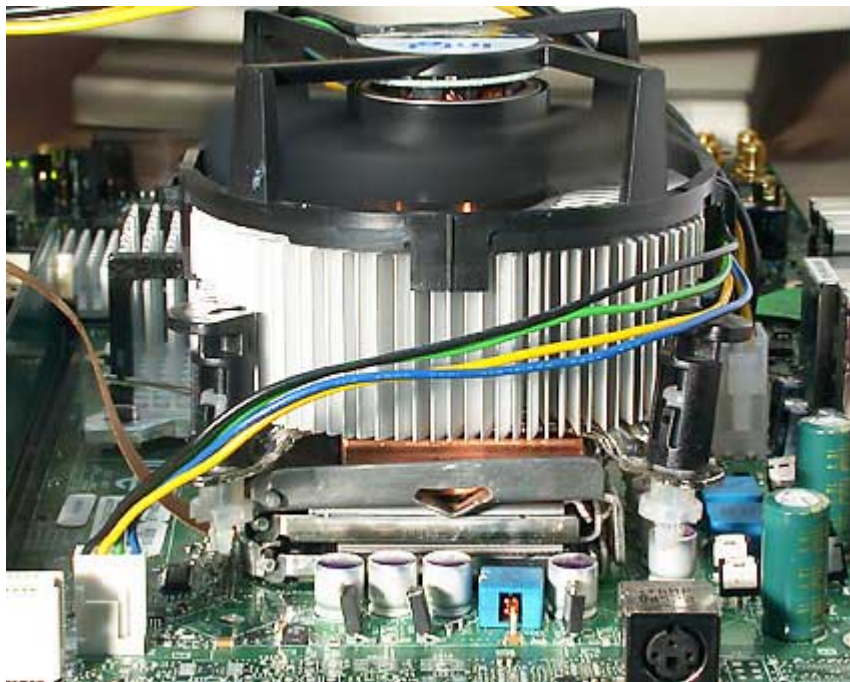

Figure 2.15 The complete LGA interposer configuration
16. Testing can now commence (Figure 2.15). To minimize heat build-up when using the interposer, avoid leaving the board under test running for long periods when testing is not being carried out.